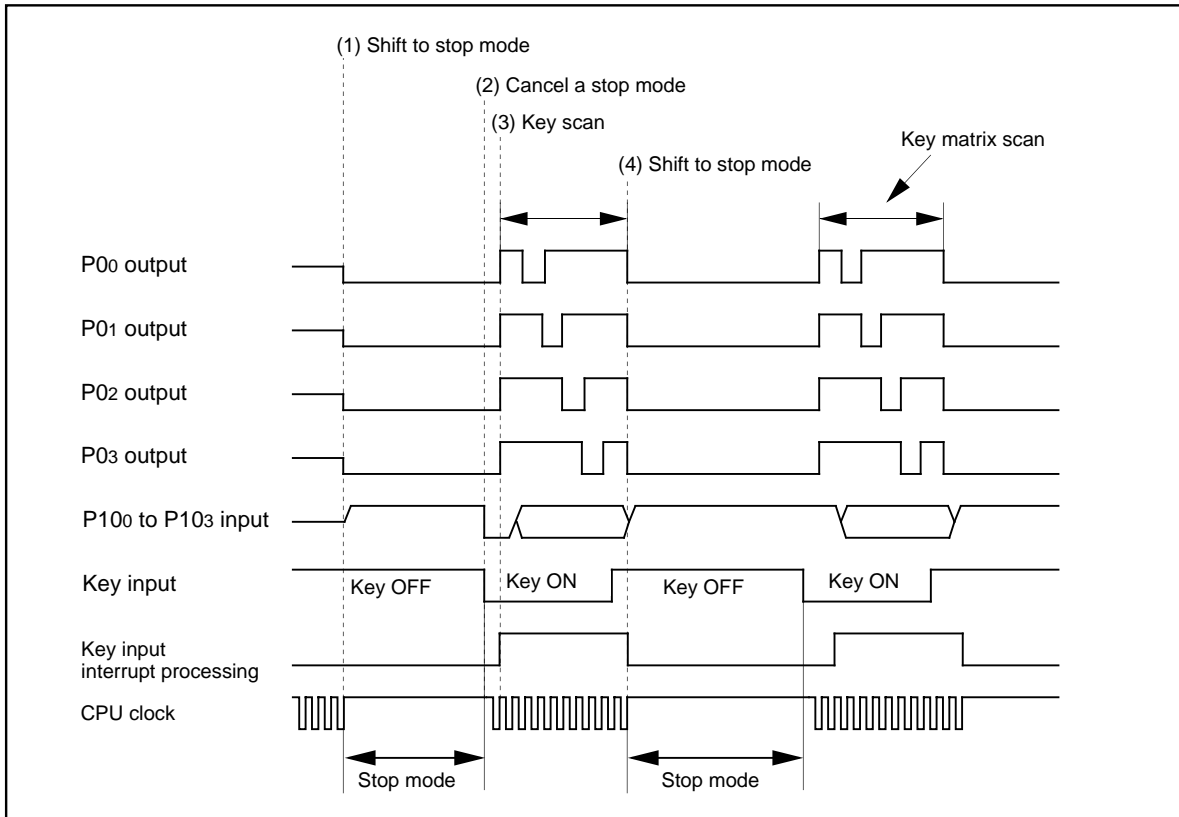
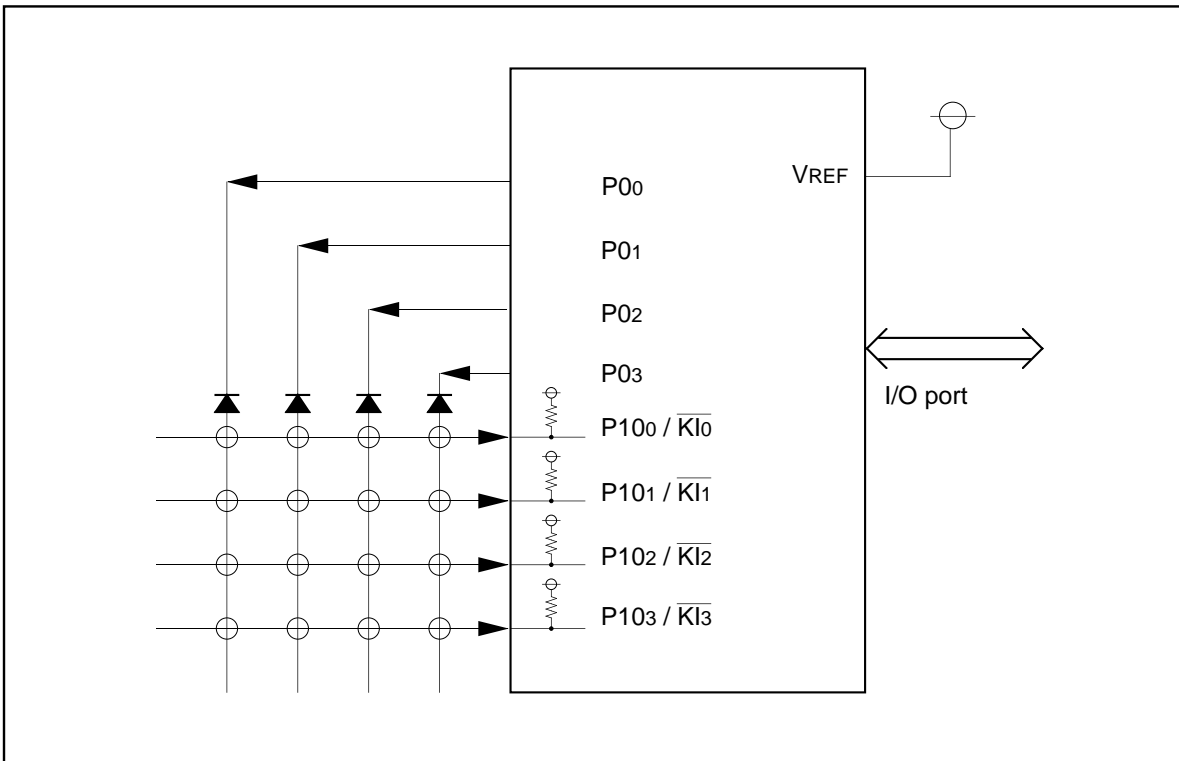
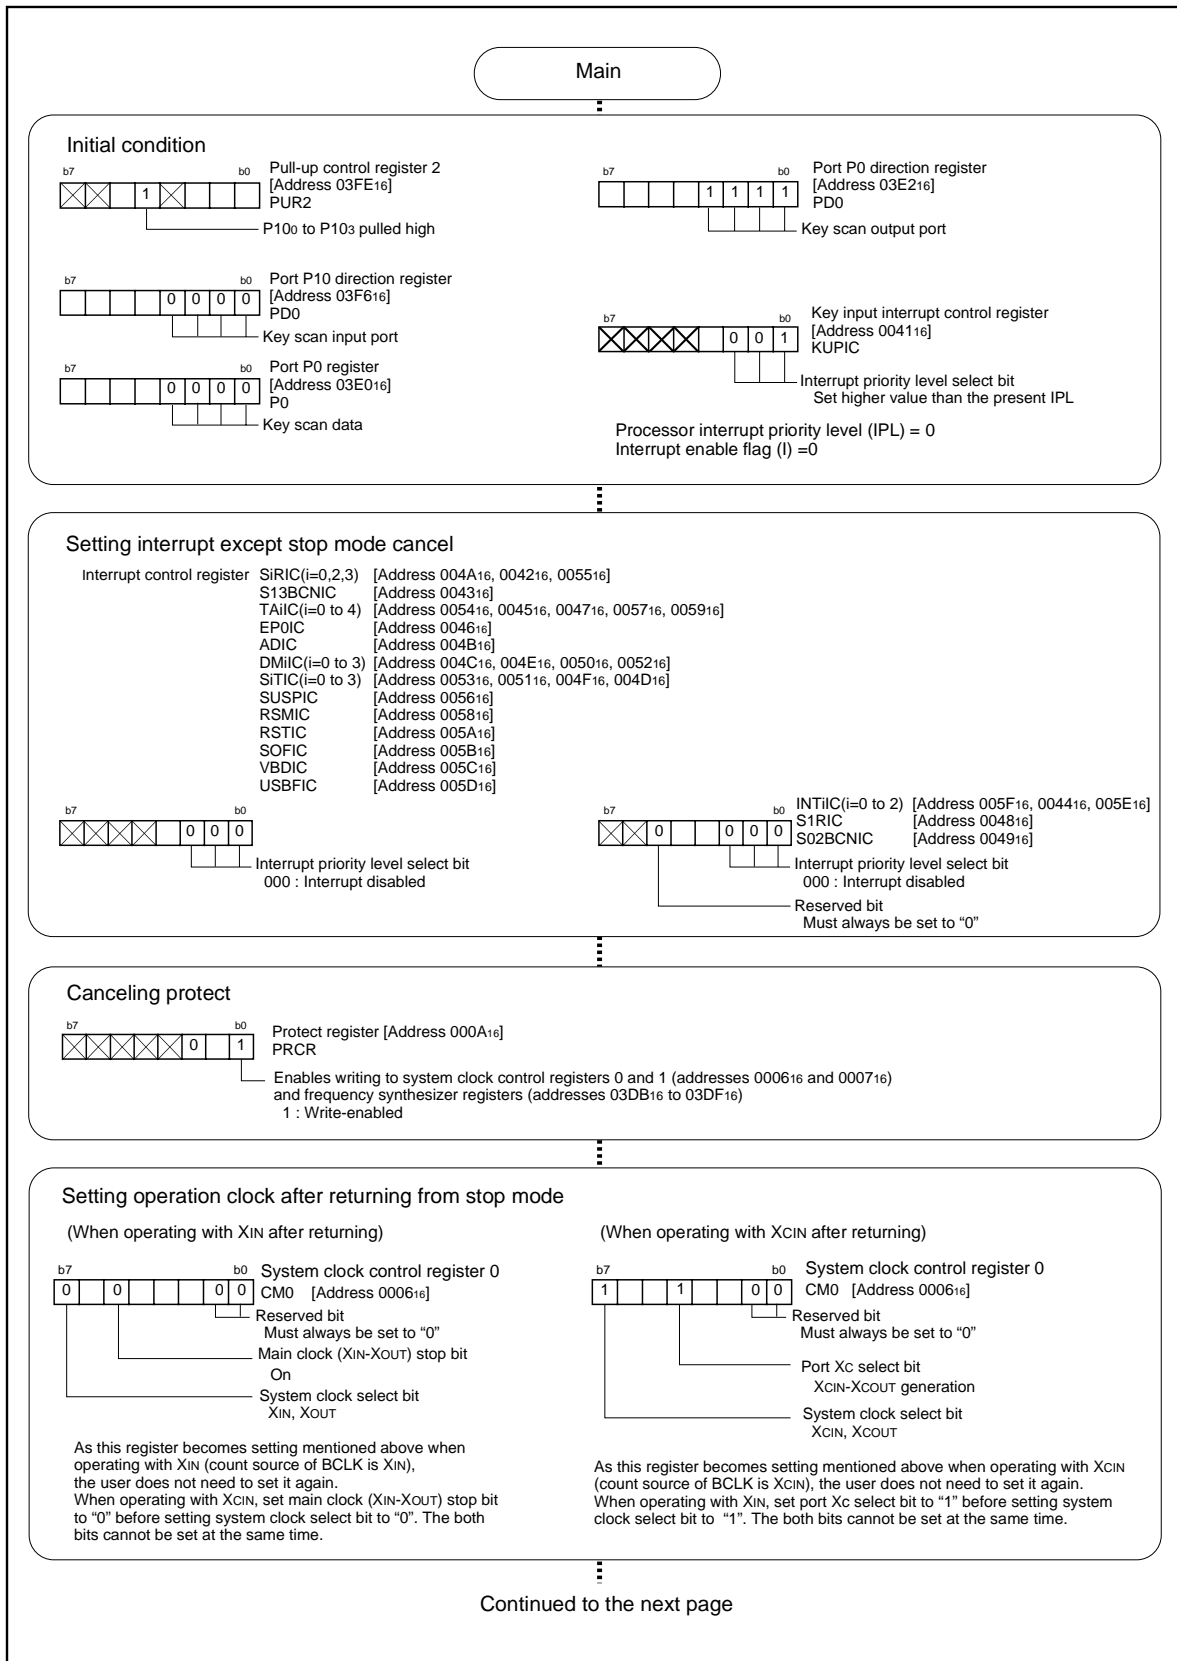

Figure 3.8.1. Operation timing of controlling power using stop mode
Figure 3.8.2. Example of circuit of controlling power using stop mode
Figure 3.8.3. Set-up procedure of controlling power using stop mode (1)
**Overview** The following are steps for controlling power using stop mode. Figure 3.8.1 shows the operation timing, Figure 3.8.2 shows an example of circuit, and Figures 3.8.3 and 3.8.4 show the set-up procedure.